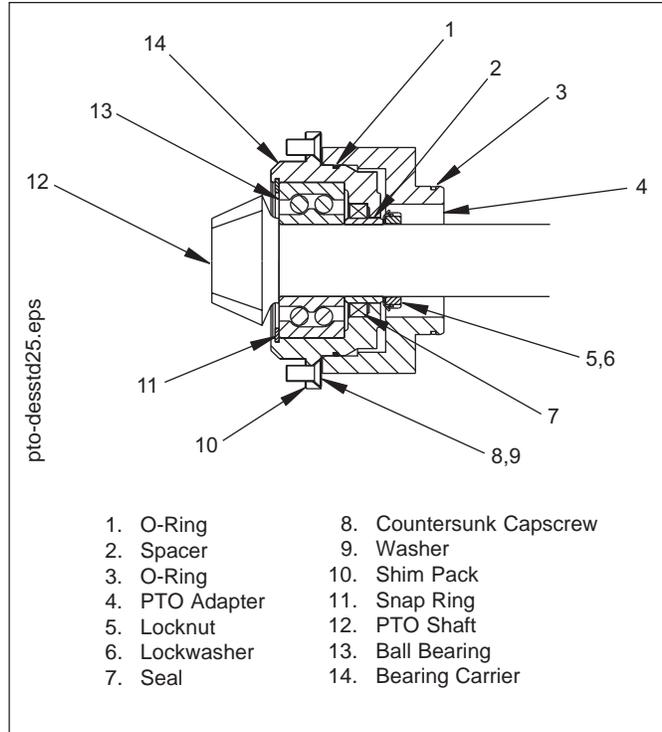

Figure 4-27 PTO Shaft on W12E for Dresser TD25E/G
**NOTE:** If equipped with a dropbox refer to Figures 4-27 to 4-34 for location of components. Assembly of the PTO shaft is essentially the same for most tractors as shown in steps 1 through 5.